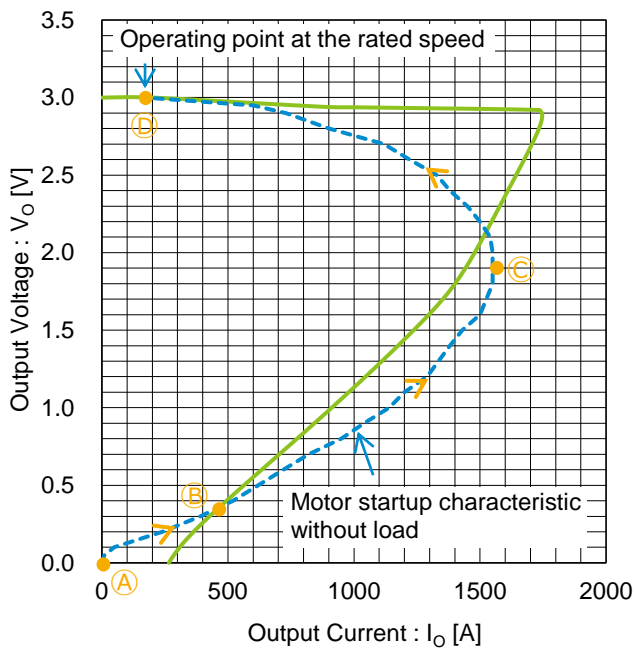

Figure 19. Example of the transition of the operating point during the motor startup
The startup current that flows when a motor starts rotating is several times larger than the current at the rated rotation. Figure 19 shows a graph of the characteristic during the motor startup superimposed on the fold back characteristic of the over current protection circuit installed on the linear regulator. The operating point of this motor starts from point (A). The startup current increases with the voltage rise, and then the operating point moves through points (B) and (C) to point (D), which is the operating point at the rated rotation. In this example, a steady point is formed at point (B), where the startup current of the motor (broken blue line) exceeds the current for the over current protection (solid green line). Therefore, the output voltage cannot rise over 0.35 V, causing a startup problem.